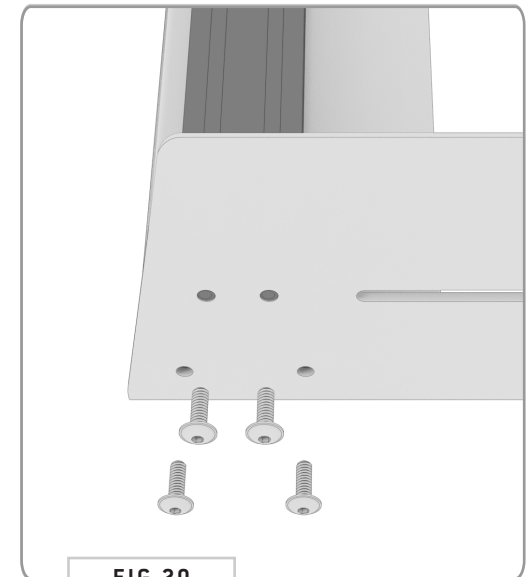

FIG 20
**6.3 Fairing Install:** Now you're ready to attach the **Rear Spoiler** to the roof rack. Slide it in from the back and into the location shown in FIG 20 and tighten down using (8) 1/4-20" Flange Head Screws.